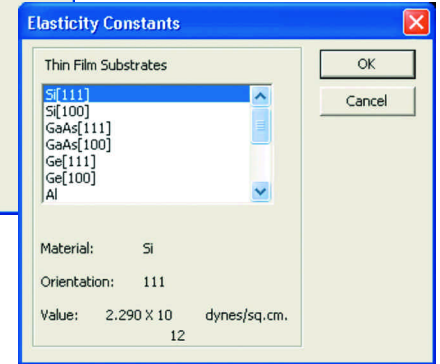

Figure 4. Choose the substrate material to obtain its elasticity constant.
19. To the right of the Elasticity box, click Select. You will be presented with a list of standard substrate materials (Figure 4). Choose the substrate material to obtain its elasticity constant, then click OK. If the actual value for your substrate is different than that given value, you can change it in the Elasticity field.